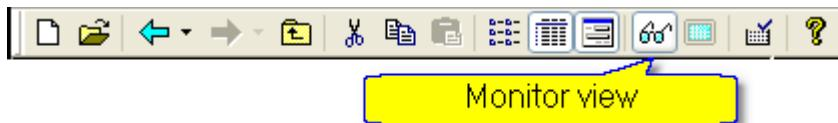

Figure 11: The Monitor view button.
1. Click on the **View** \Rightarrow **Monitor view** menu item (toolbar item). (Please see Figure 11).